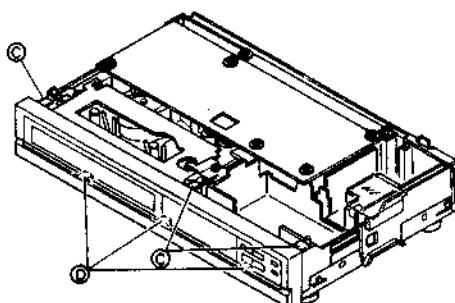

Fig. 1-1-2
3. Refer to Fig. 1-1-2 and pull the front panel assembly forward you to disengage 3 tabs **(D)** of the front panel assembly from the bottom side of the chassis, then remove the front panel assembly.